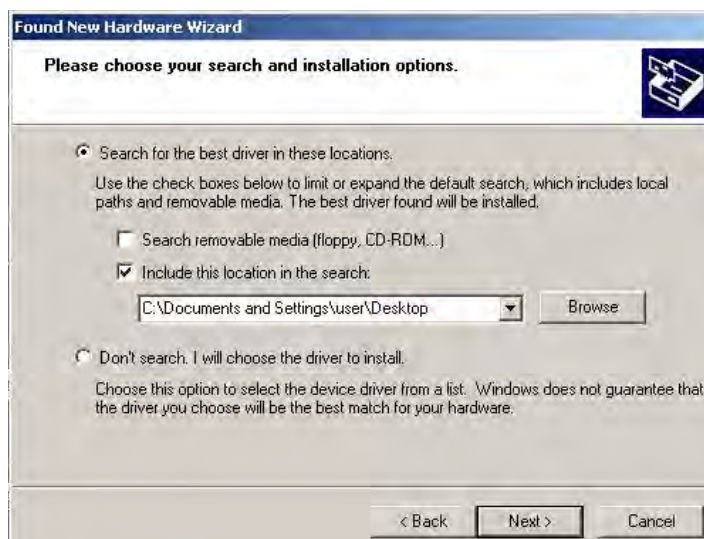

FIG. 30 Found New Hardware Wizard Installation Options dialog
6. In the next box (FIG. 30), make sure to: